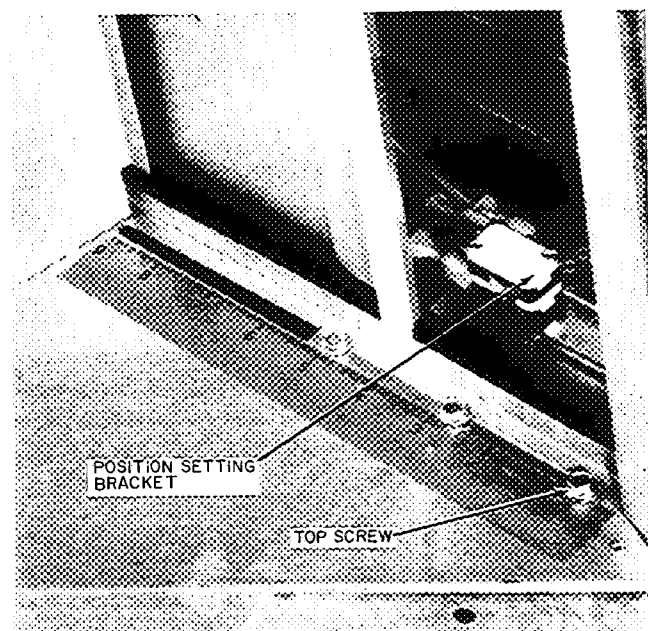

Fig. 23 — Minimum Position Damper Setting
8. Determine economizer damper position setting (see Fig. 22). Adjust damper setting by adjusting screws on the position setting bracket (see Fig. 23). Slide position setting bracket until top screw (see Fig. 23) is in the position determined by Fig. 22. Tighten screws.